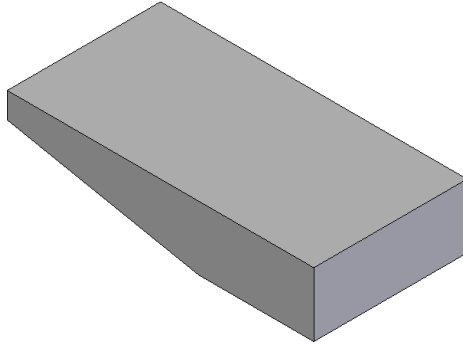

Figure 8-74 Base feature of the model
- Start Solid Edge in the **Part** environment. Create the base feature on the front plane, refer to Figure 8-74.
- Create the profile of the base feature and extrude it symmetrically. The base feature of the model is shown in Figure 8-74.